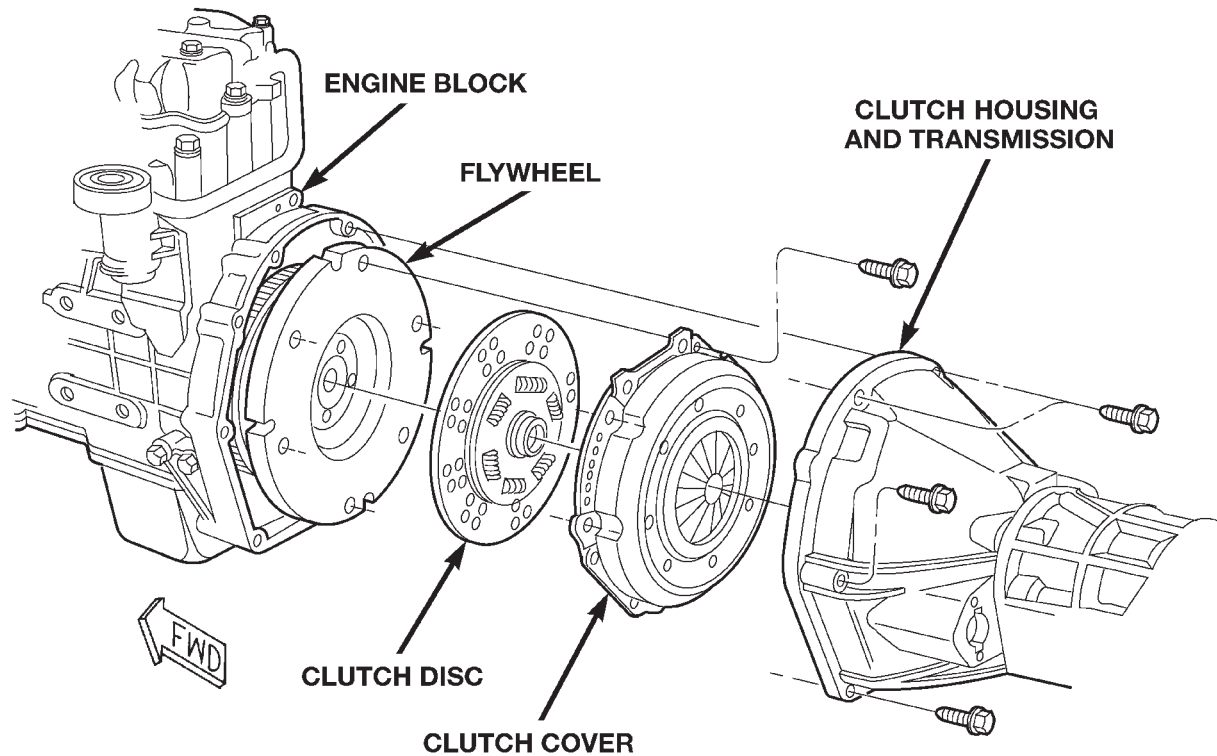

Fig. 10 Transmission to Engine Mounting
2. Install the transmission to the vehicle (Fig. 10).
3. Install the two (2) lower transmission bolts. Tighten the bolts to 74.6 N·m.